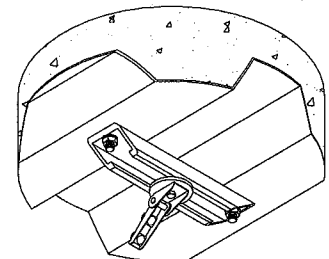
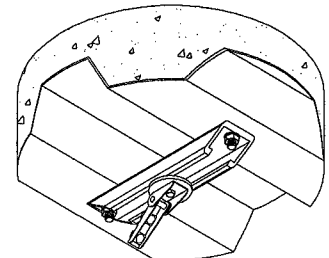

FIGURE 2
FIGURE 3
- 2 THIS BRACE SHALL BE INSTALLED WITH AN SLDB-2000 AS SHOWN IN FIGURE 2 OR FIGURE 3
- 3 THIS BRACE SHALL BE INSTALLED WITH AN SLDB-2000 AS SHOWN IN FIGURE 3 ONLY (IN LINE WITH ANCHORS).